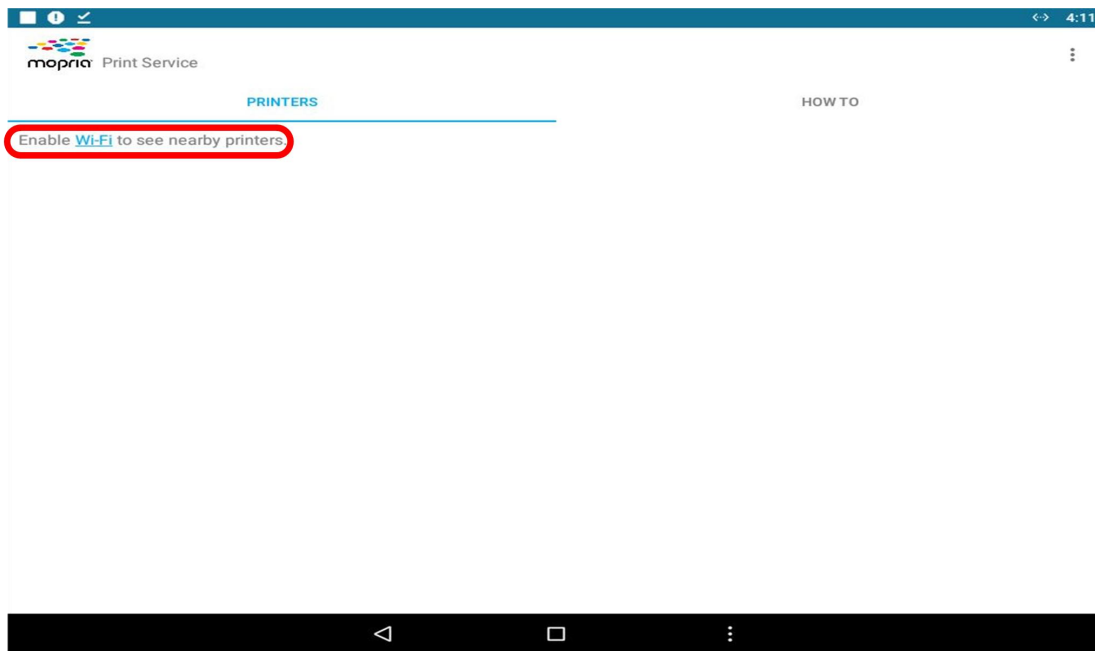

Figure 4-1
3. After entering the printing app interface, click "**Enable Wi-Fi to see nearby printers**" to connect to the printer's Wi-Fi, as shown in Figure 4-1. Wi-Fi connection is successful, as shown in Figure 4-2.